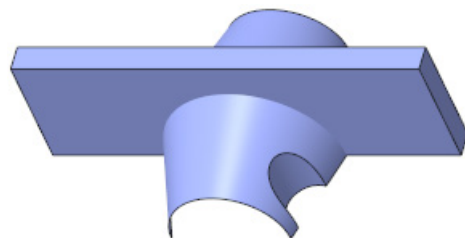

Figure 15-127 Model after merging the surfaces
4. Exit the **Merge** dashboard by choosing the **OK** button. The model after merging the two surfaces is shown in Figure 15-127.